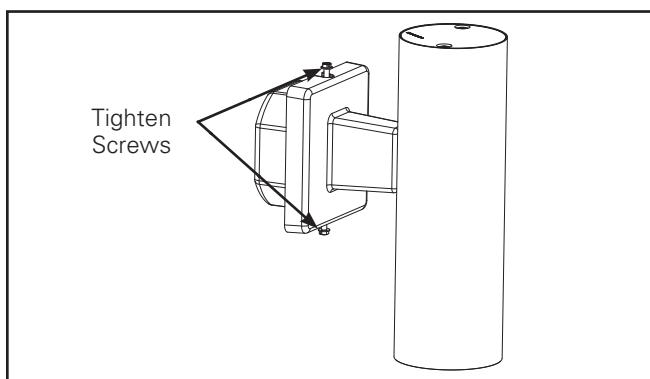

Figure 3
4. Mount cylinder housing assembly to wall by tightening screws on top and bottom of arm base to 17 IN/LBS torque to engage mounting plate (Figure 3).